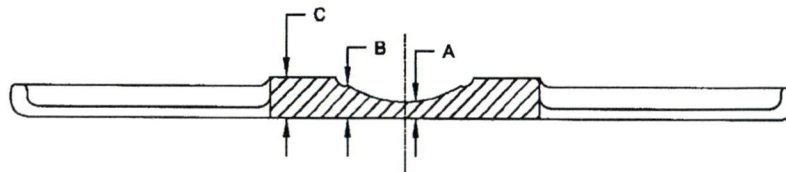

Figure 5-2: Damage Limit Diagram
- 5.2.2 In the shaded region of Figure 5-2, the Bearpaw may be worn by a maximum of 0.125" (3.18mm) down to the minimum allowable values specified in Table 5-1. Outside the shaded region of Figure 5-2, (i.e. in the pockets) it is acceptable to have worn areas up to a maximum of 0.125" (3.18mm) deep over a maximum area of 2 sq. in (1290 sq. mm). The edge of one damaged region must be a minimum of 2" (51mm) away from the edge of next nearest damaged region.
- 5.2.6 Cracks are acceptable in the unshaded portion of Figure 5-2 as long as they are restricted to the pockets of the Bearpaws. Cracks that penetrate the stiffening ribs of the unshaded regions are unacceptable. Stop drill all cracks up to 0.50" (12.7mm) long with Ø0.188" (Ø4.78mm) drill.